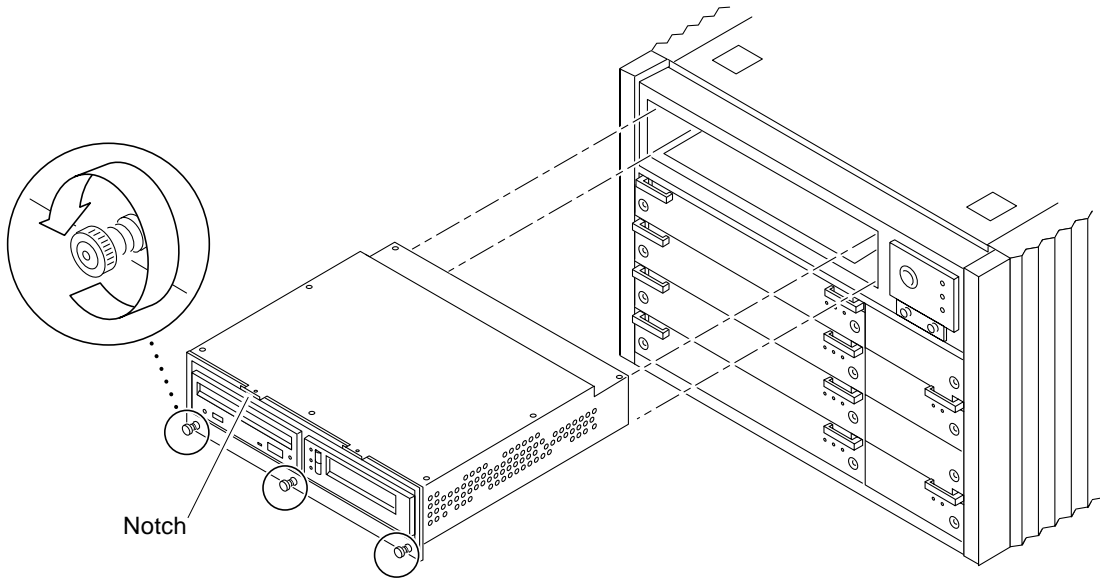

FIGURE 8-7 Removing and Replacing the media tray
2. **Loosen the bottom three captive screws that hold the media tray to the chassis tray (FIGURE 8-7).**
3. **Insert a screwdriver in the notch (FIGURE 8-7) at the top center of the media tray to pull out the tray and separate it from the rear slip connectors.**